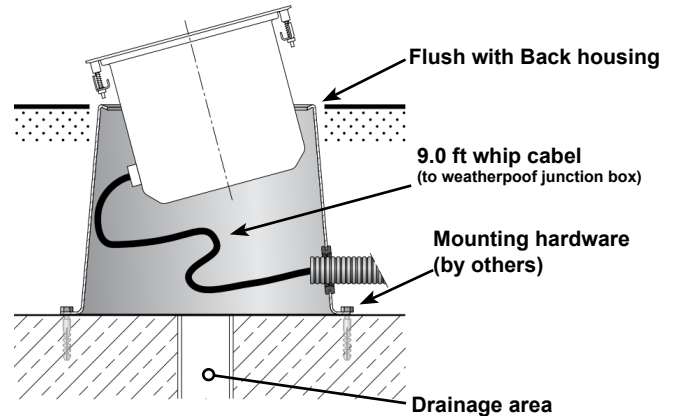

Figure 2: Faceplate Detail
2. The finished surface must be level with or below the upper edge of the recessed housing to guarantee a proper seal of the luminaire faceplate. See Figure 2.